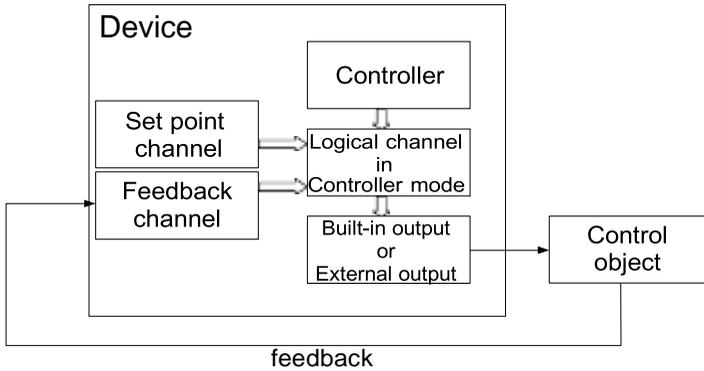
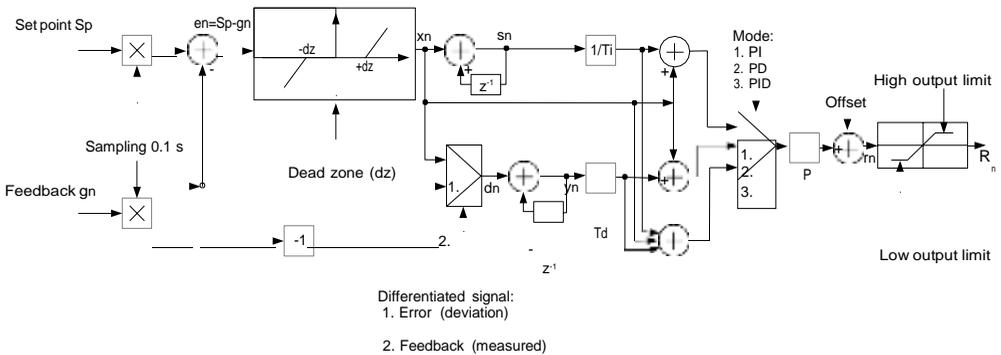
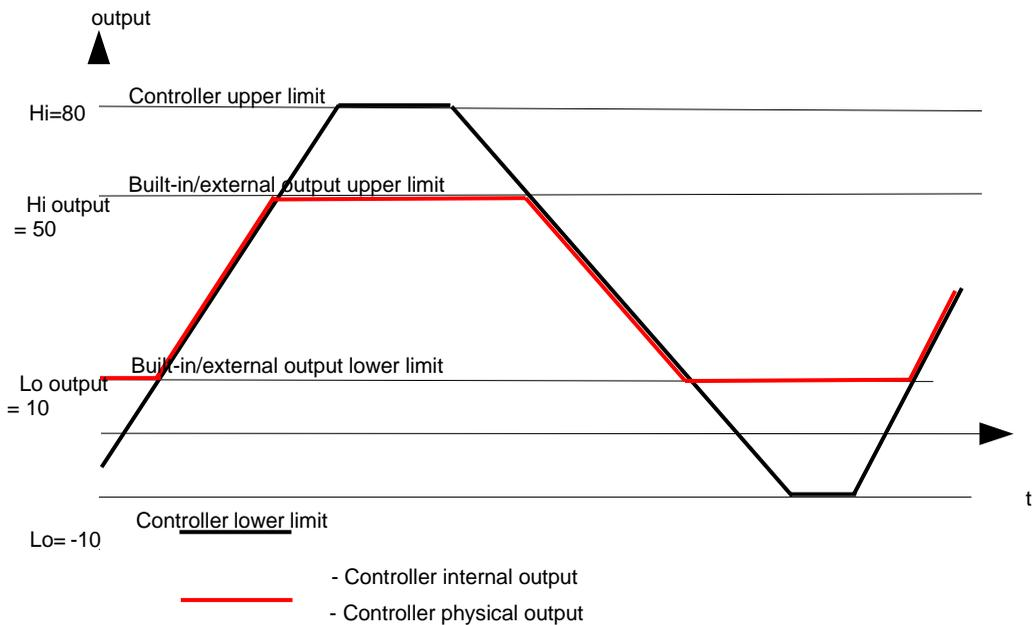

Fig. 7.119. Block diagram of the control loop of the object by MultiCon
Fig. 7.120. Block diagram of the **Controller** implemented in the device
Fig. 7.124. Control loop output limitation
- **Differentiated signal** - this parameter is available for the **PD** and **PID** mode and allows the selection of the option (see **Fig. 7.119** and **Fig. 7.120**):
Note! After offsetting the output signal the output value is limited to the range set in **Low output limit** and **High output limit** parameters (see Fig. 7.120),
Fig. 7.119 shows the block diagram of a control process of an object with the **Controller** implemented in the device. Set the setting of the selected Controller to be connected to the **Logical channel** operating in the **Controller** mode. In this **Logical channel**, select the **Set point channel** and the **Feedback channel**, which store the data required to control the object. Respectively, the **Set point channel** contains a destination value of the process,
In the **Fig. 7.124** an exemplary diagram of the output values of the control loop is presented. The diagram shows the double limitation of the control loop supplied to the object. The first limitation with a black line results from the output parameters of the Controller (logic channel output value in the controller mode, see **Fig. 7.119**), and the second limit marked with a red line results from the parameters built-in/external outputs (value transferred to controlled object, see **Fig. 7.119**).